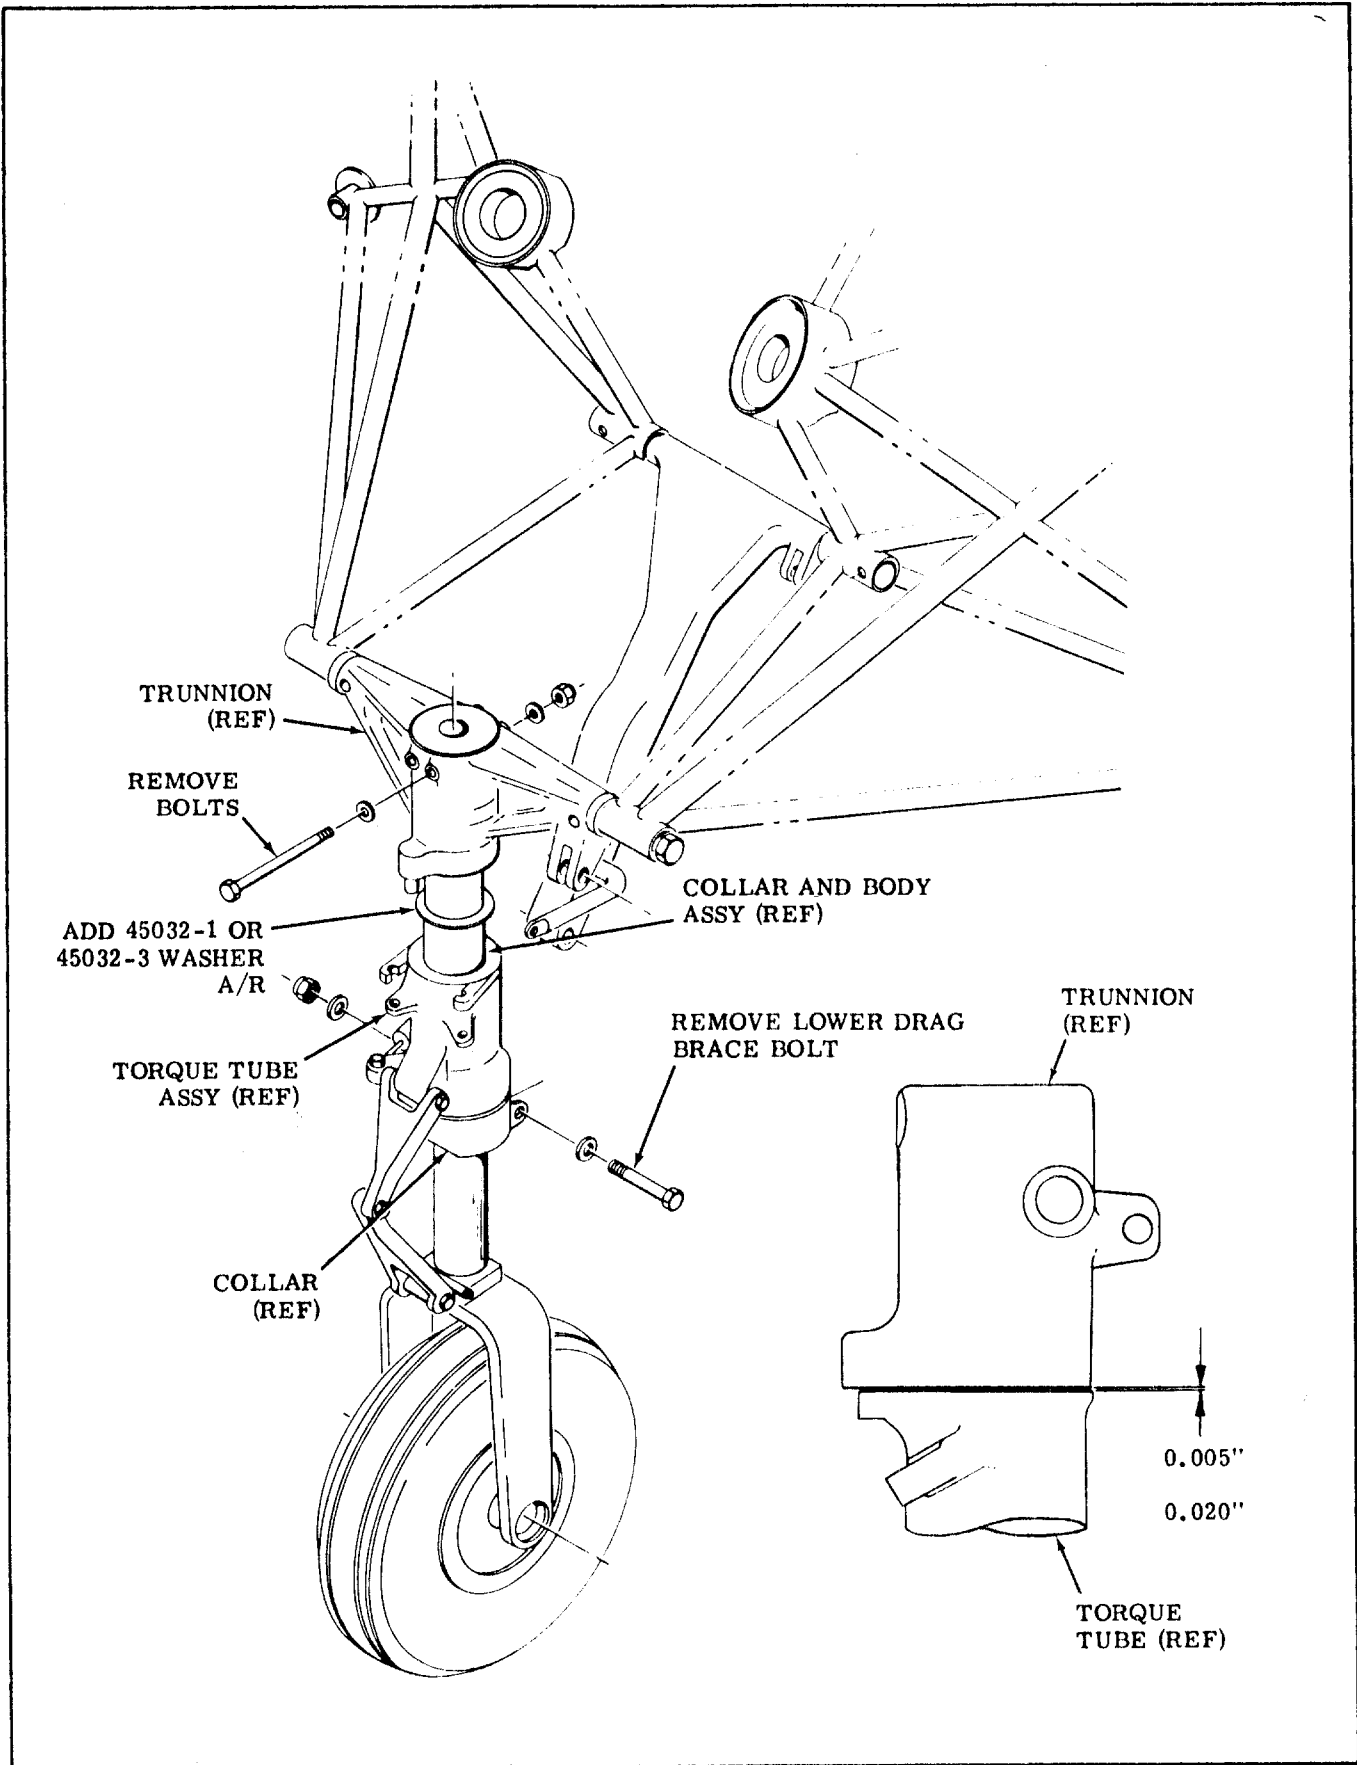

Figure 1.
2. With torque tube firmly against lower collar, check gap dimension between nose landing gear trunnion and torque tube. Gap should not be more than 0.020-inch or less than 0.005-inch (see Figure 1.).
7. Remove bolts attaching trunnion to body and collar assembly (see Figure 1.).
8. Remove nose gear strut assembly from trunnion assembly (see Figure 1.).
9. Install 45032-1 and/or 45032-3 washer as required to obtain clearance not less than 0.005-inch or more than 0.020-inch (see Figure 1.).